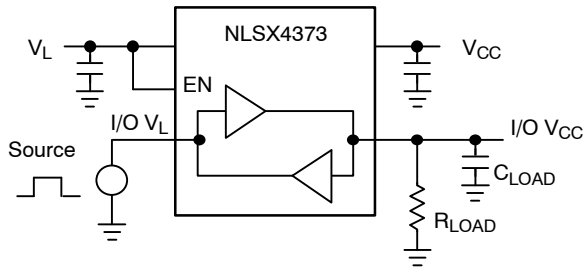

Figure 2. Rail-to-Rail Driving I/O  $V_L$
**TIMING CHARACTERISTICS – RAIL-TO-RAIL DRIVING CONFIGURATIONS**(I/O test circuit of Figures 2 and 3,  $C_{LOAD} = 15 \text{ pF}$ , driver output impedance  $\leq 50 \Omega$ ,  $R_{LOAD} = 1 \text{ M}\Omega$ )